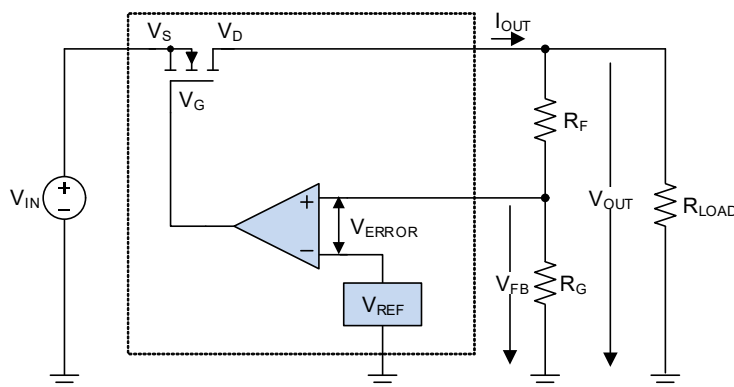

Figure 23. Simple NMOS LDO Regulator Block Diagram
Like the majority of LDOs with a NMOS pass transistor, the RRP52999 DC output voltage (V_{OUT}) regulation can be modeled with a voltage reference (V_{REF}), NMOS pass-transistor, error amplifier and feedback (FB) resistors as shown in Figure 23.